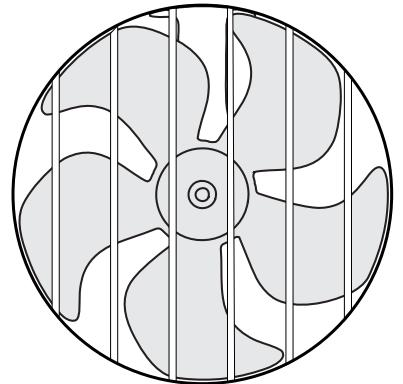

Fig. 2
In some cases (shallow installation or workboat/fishing boat only) we recommend to protect the propeller by mounting a grid in the tunnel opening (Fig. 2). It is important to keep a grid to a minimum and as streamlined for the thrusters waterflow as possible, as it will decrease the effect of the thruster. Do not circular profile steel as it will decrease thrust significantly.
I visse tilfeller (ved grunne installasjoner, fiske/arbeidsfartøy fartøy) anbefaler vi å beskytte propell og girhus ved å montere et gitter foran tunnelåpningene (Fig. 2). Det er da meget viktig å beholde strømlinjeformen, og å begrense gitteret til et minimum. Feil installasjon kan begrense skyvekraften med 10%.
- Terminals must be properly tightened. Secure/hold inner nut when tightening (Fig. 2). Tighten with max: 15 Nm/11lb/ft. The negative/minus cable (*A) connects to the A1 (-) terminal. The positive/plus cable (*B) connects to the "+" terminal.